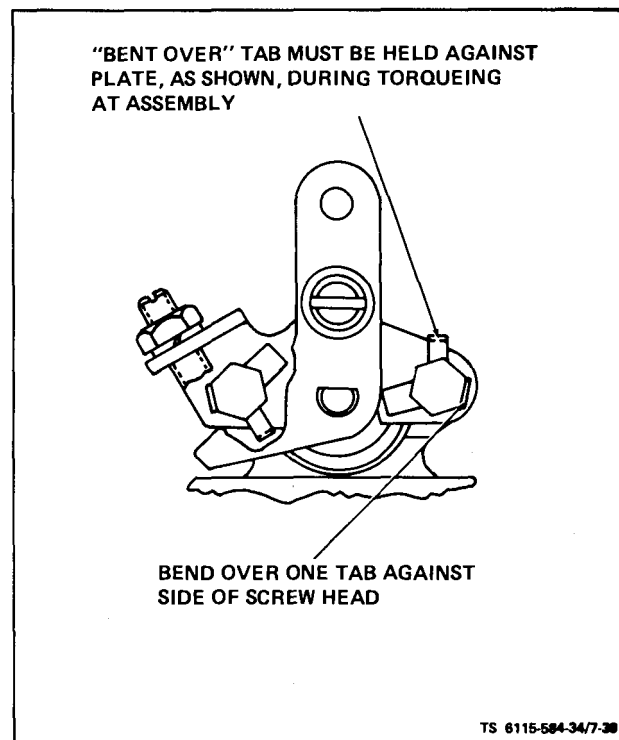

Figure 7-39. Control Unit Assembly
(23) Install control unit assembly retaining plate, as shown in figure 7-39 using two tab washers and two screws. Torque screws to 20-25 inch-pounds and bend locking tabs over screws.